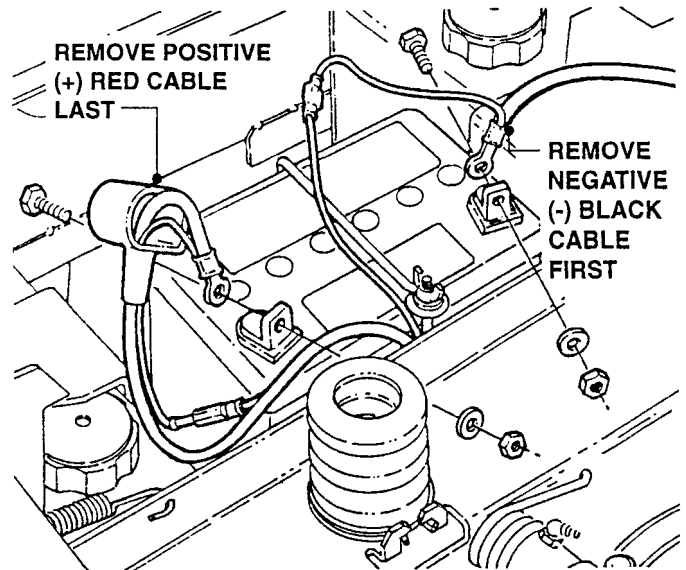

FIGURE 5.8
- Disconnect the Battery. Remove NEGATIVE (-) BLACK Cable first and POSITIVE (+) RED Cable last. Secure Cables away from the Battery. See Figure 5.8.
- 1. Place the Spacer between the Hydro Transaxle and mounting surface of Frame. Insert the two (2) 3/8 - 16 x 4 3/4" Bolts thru the holes in top of the Frame, Spacer and Transaxle. Secure Bolts with Flat Washers and Locknuts. Torque to 31 Ft. Lbs. (42.16 N•m).
- 2. Secure the Hydro Transaxle to the Bearing Mount Weldment with the eight (8) 1/4 - 20 x 5/8 Hex Flange Lock Screws. Torque to 8 Ft. Lbs. (10.88 N•m).
- F. Depress Idler Pulley and place Traction Belt(s) over Input Pulley. Move the Input Pulley on its Shaft until the Belt is aligned with Traction Pulley. Tighten the two (2) 5/16 - 18 x 5/16 Sq. Hd. Set Screws.
- M. Reconnect Battery (Refer to Figure 5.8).